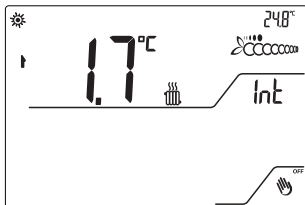

Fig.26
8.3.4 To display the temperature of the external probe, from standby press  then press  and **Int**, ambient temperature appears. Press again  and **Est** appears, temperature measures by the probe. Fig.26